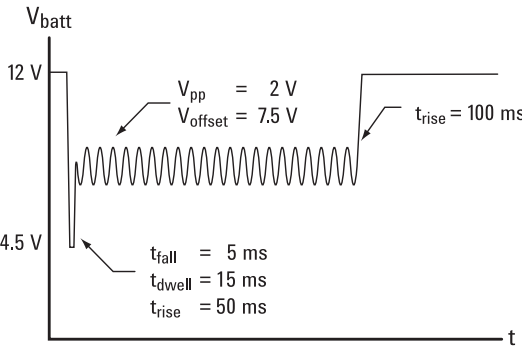

Figure 3. "Starting Profile" transient waveform
Next let's explore how to generate transient waveforms for engine crank immunity testing using the N6705A. The built-in waveforms combined with the waveform sequence capability allows us to easily construct a common engine crank waveform used for ECU testing, as shown in Figure 3. This waveform is documented as the *Starting Profile* waveform in the ISO 16750-2 specification.
1. Define the waveform shape, including voltage levels, transition and dwell times and frequencies as shown in Figure 3. Count the number of individual sections — for example, in this case we have a ramp down, a ramp up, a sine wave (it doesn't matter how many cycles) and a final ramp up. Thus, this waveform has four sections (steps).